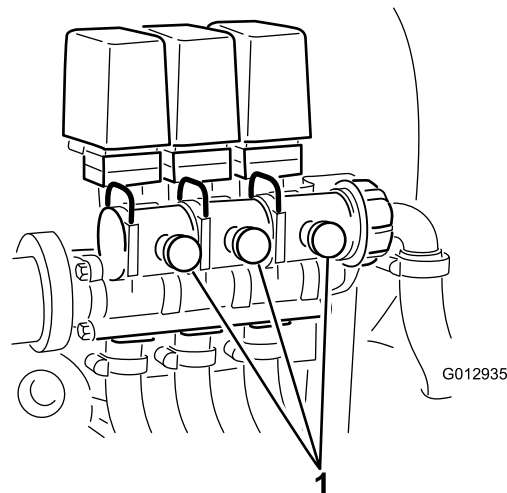

Figure 43
- Adjust the boom bypass valve (Figure 43) on the boom control valve for the boom you turned off until the pressure reading on the gauge is the same as it was in step 9.